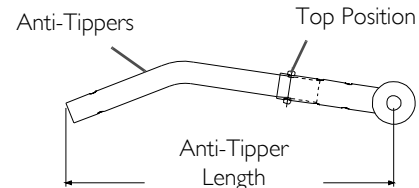

FIGURE 1 Installing Anti-Tippers
1. Depress the release buttons and insert the anti-tippers with the anti-tipper wheels pointing toward the ground/floor into the wheelchair frame tubing as shown in FIGURE 1.